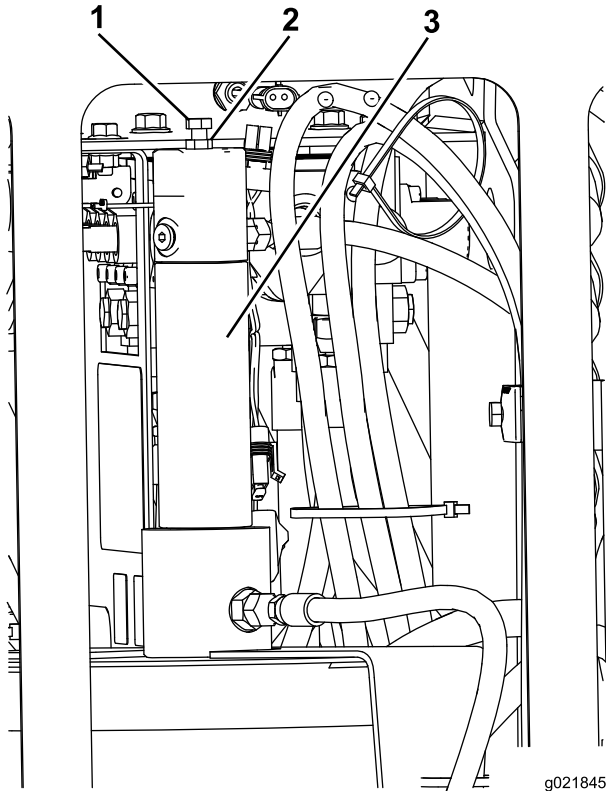

Figure 92
1. Loosen the jam nut on the adjustment bolt located on top of the TJC-applicator piston (Figure 92).